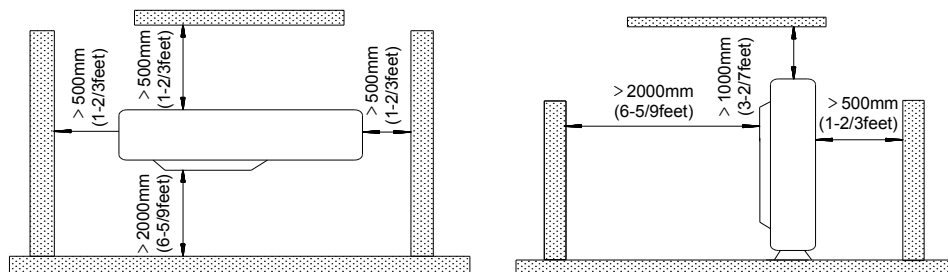

Fig. 3.2
- (7). Provide the space shown in Fig. 3.2, so that the air flow is not blocked. Also for efficient operation, leave three of four directions of peripheral constructions open.